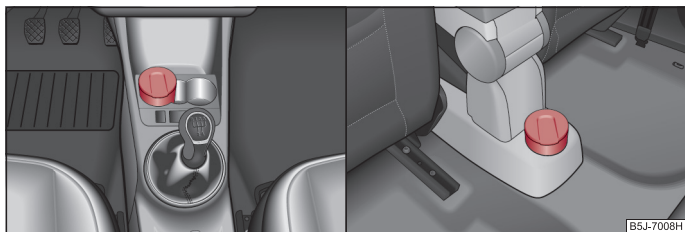

Fig. 76 Centre console: Ashtray at the front / rear
- Remove the ashtray ⇒ fig. 76 upwards. When removing do not hold the ashtray at the cover - risk of breakage.